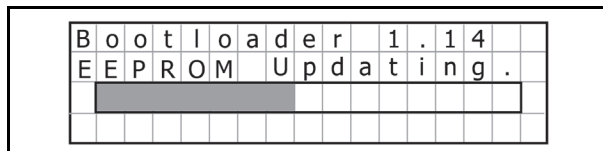

Figure 52 EEPROM Update Progress Bar
3. Press the OK Key  to begin the EEPROM update. The LCD Screen will display a Progress Bar during the EEPROM updating process as shown in Figure 52.